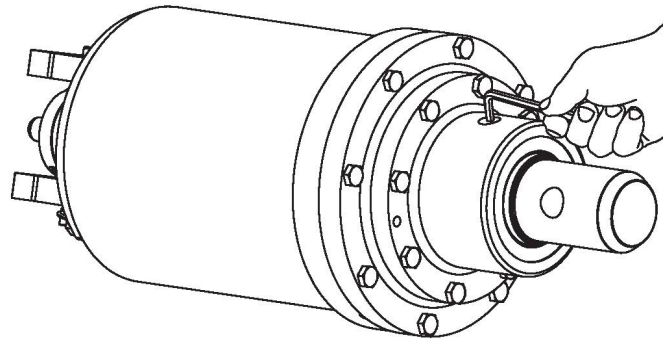

Figure 11
1. Lay the drive unit flat on the ground with the oil fill plug facing up. Using an 8 mm Allen key, remove the plug. See Figure 11.